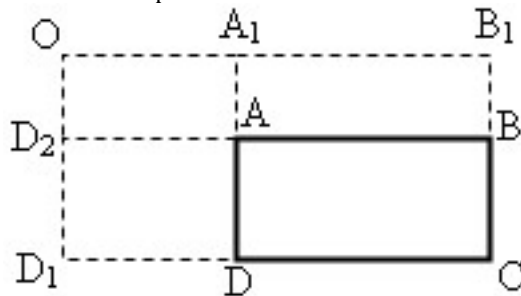

Fig.5
- (b) ABCD is a raft foundation of a multi-storey building (as shown in figure 5), wherein AB = 20 m, BC = 12 m, AA1 = 4 m and A1O = 6 m. The uniformly distributed load over the raft is 350 kN/m2. Determine the vertical stress at a depth of 6 m below point O.